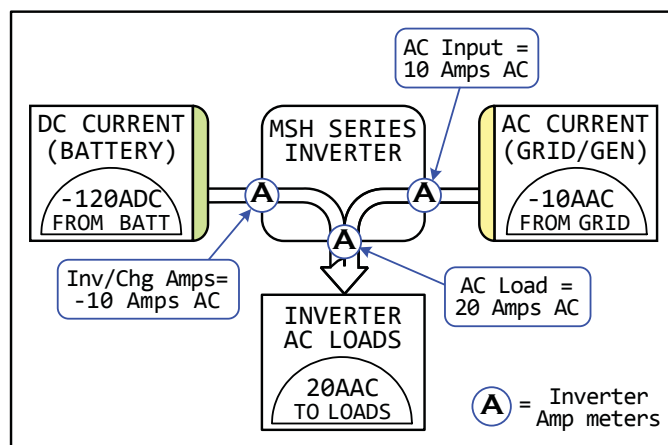

Figure 3-8, Current Flow – Load Support Mode
- ◇ Load Support mode example: 10A (input amps) minus -10A (inverter amps) = 20A (load amps), see Figure 3-8. A load amps of 20A means $20A \times 120V = 2400W$ load on the inverter.